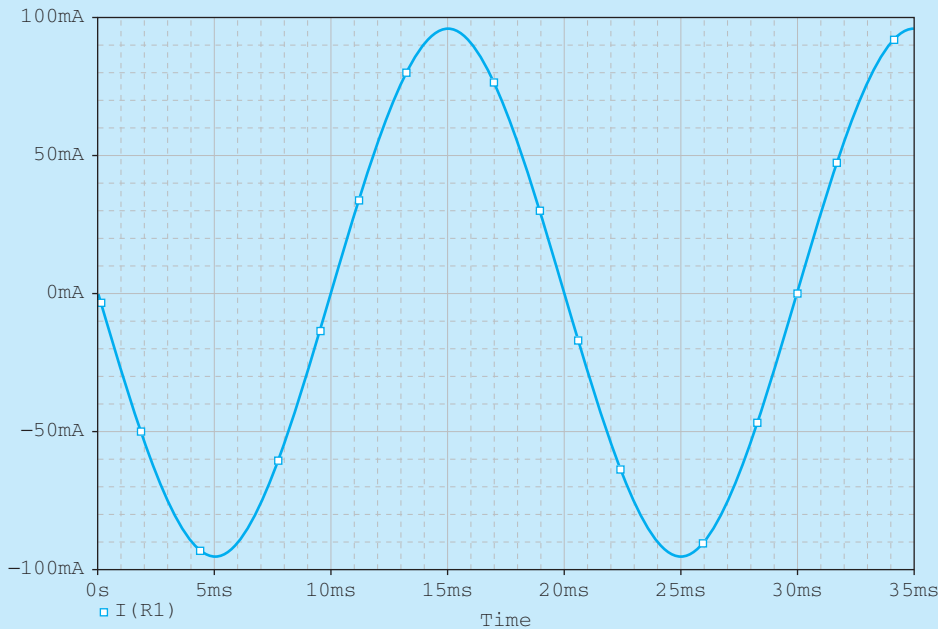

FIGURE 2.87 Simulation results for Example 2.24.
2. Follow the steps in the Tutorial section to set up a Time Domain Analysis Simulation. The current plot across the human body is shown in Figure 2.87.
3. Figure 2.87 shows the maximum (also known as amplitude) of the current is less than 100 mA. Therefore, the worker is able to survive the electric shock.